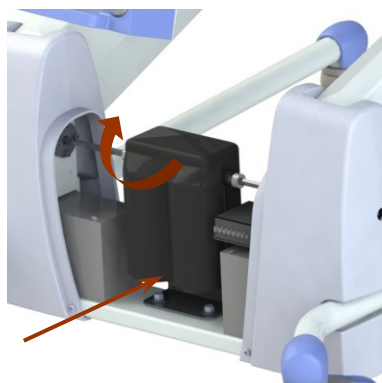

Figure 5 Motor
3. Detach M6 bolts under the motors. Tilt the motors. (See figure 5)